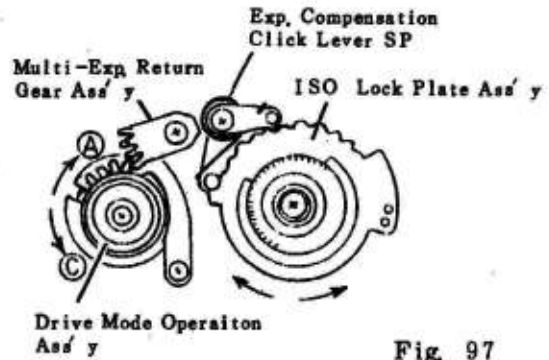
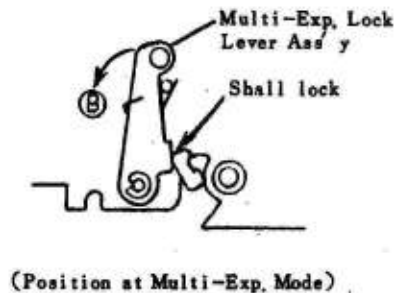

Fig. 97
Fig. 99
- c) The Exp. Compensation Click Lever Spring shall not be in contact with the Multi-Exp. Return Gear Ass'y. (See Fig 97)
- b) When the Drive Mode Operation Ass'y is turned from the "single" to the "multi-exp." position (in the direction of A in Fig. 97), it shall lock without fail. When the Multi-Exp. Lock Lever Ass'y is turned in the direction of B in Fig. 99, the Drive Mode Operation Plate Ass'y shall restore to the "single" position and stop without fail.
- And when the Drive Mode Operation Plate Ass'y is turned from the "multi-exp." position in the direction of C in Fig. 97, it shall unlock after a slight click sound and restore to the "single" position.